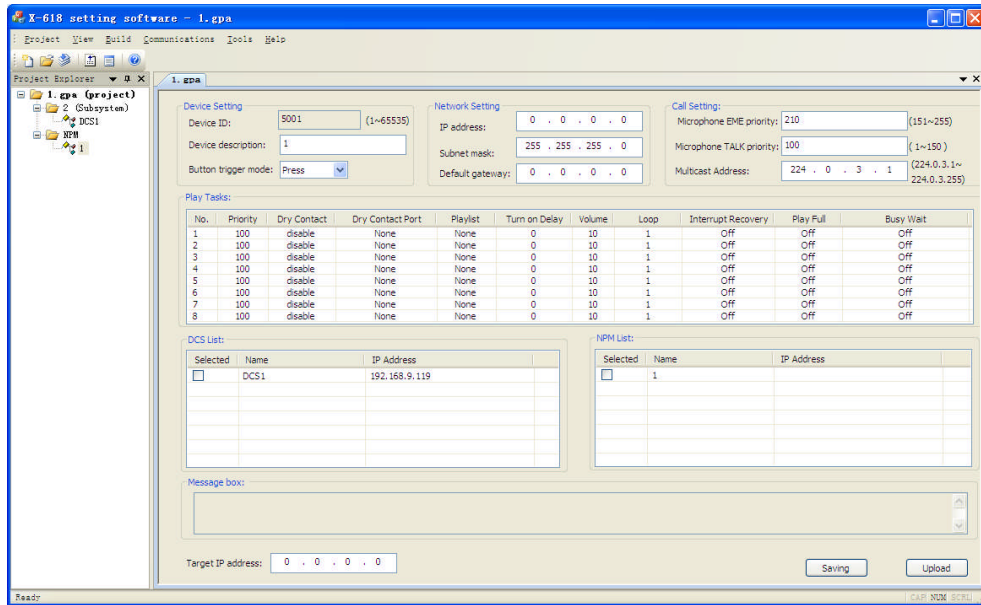

Figure 29 NPM Settings Window
- Set the NPM Name as you need, and click **OK** button. The NPM settings window displays as shown in the Figure 29.